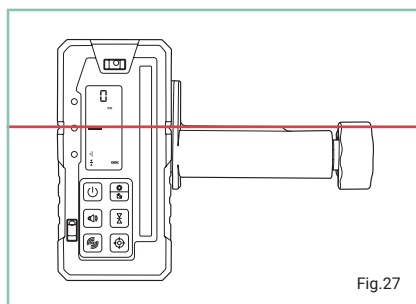
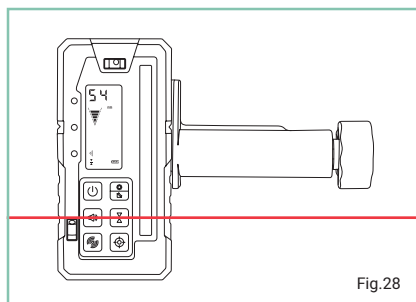

Fig.27
Fig.28
- The direction arrows or level line on the LCD screen will indicate the position of the laser beam. The digital display will indicate a millimetre reading of the adjustment required (Fig.27 & Fig.28).
- When the level position has been located, the speaker will emit a constant beep and show the centre alignment line on the LCD screen (Fig.27).